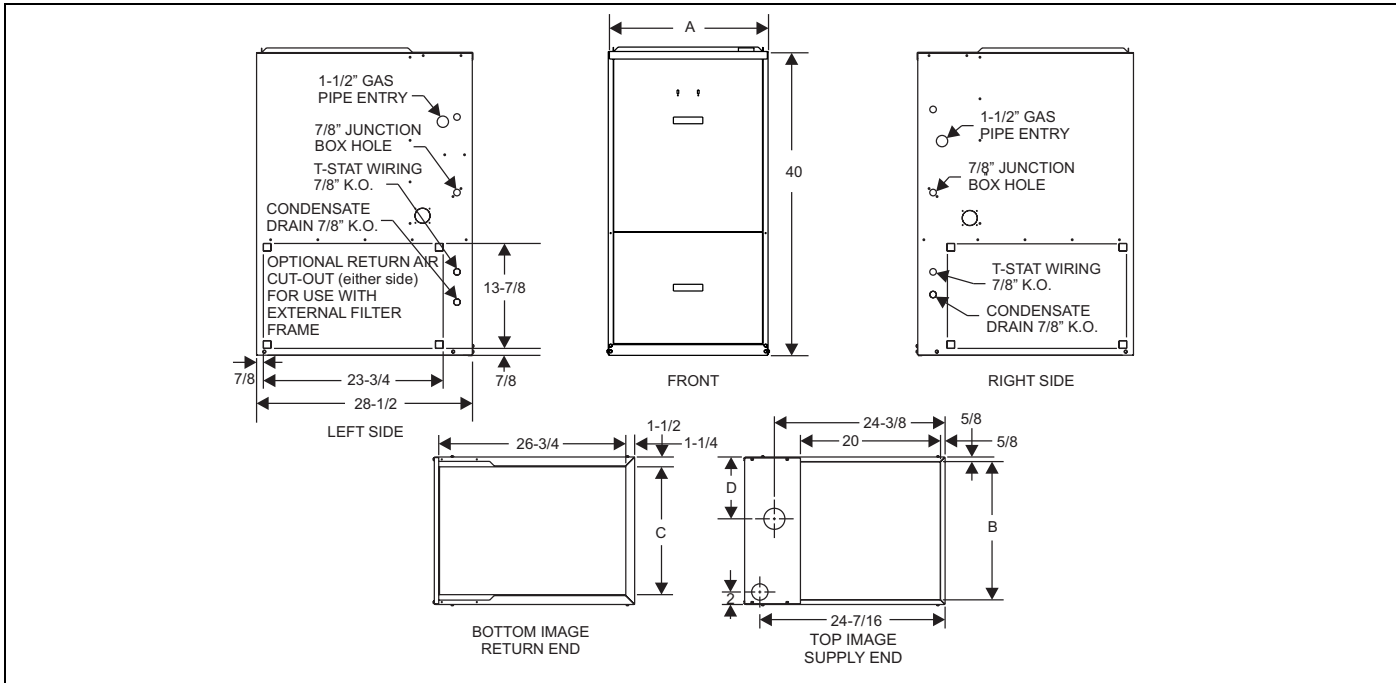

FIGURE 1: Dimensions
Locate and mark the side return opening. Refer to Figure 1 for dimensions of the cutout.
**IMPORTANT:** Some accessories such as electronic air cleaners and pleated media may require a larger side opening. Follow the instructions supplied with that accessory for side opening requirements. Do not cut the opening larger than the dimensions shown in Figure 1.
Gas piping may be connected from either side of the furnace using any of the gas pipe entry knockouts on both sides of the furnace. Refer to Figure 1 dimensions.